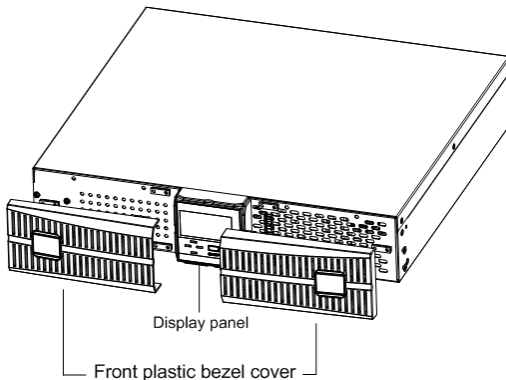

Fig.4-3 Removing the front plastic bezel cover
1. Remove the front plastic bezel cover gently, as shown in Fig.4-3.